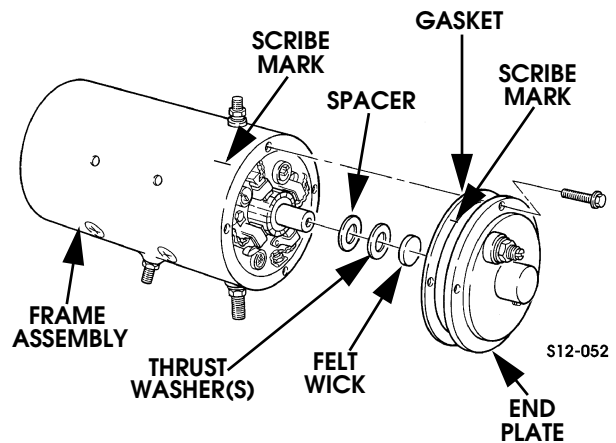

Figure 12-65: Starter End Plate Installation
19. Saturate felt wick with engine oil and install in end plate (Figure 12-65).